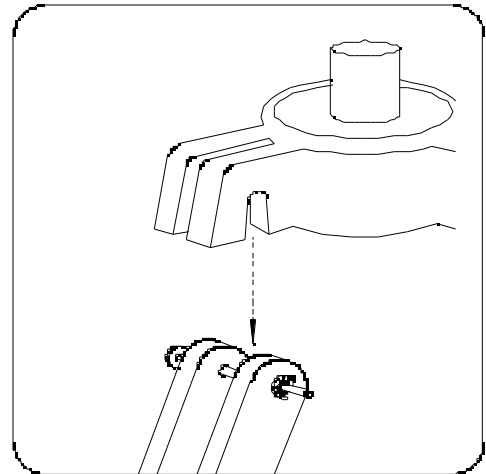

fig. 2
- Select one tripod leg. Loosen *Tripod Leg Lock Screw (11)* and extend the *Tripod Leg Middle Section (8)*. Tighten the *Tripod Leg lock Screw* so that the *Middle Section* is securely in place. Repeat for the remaining two legs.
- Locate the pre-assembled *Telescope Main Tube (15)* and *Equatorial Mount (20)*. **Note: Before assembling tripod legs to Equatorial Mount, make sure the Accessory Tray Braces (9) face inward.** Loosen long bolts at the top of *Tripod Leg (12)*. Carefully remove *Telescope Main Tube* from *Cradles (25)*. Position the mount over the *Tripod Leg* as shown (fig. 2). and secure *Equatorial Mount* to *Tripod Leg*. Repeat on the remaining two *Tripod Legs*. Once you have attached all *Tripod Legs* to the mount, securely tighten all wing nuts and place *Telescope Main Tube* back into *Cradles*.